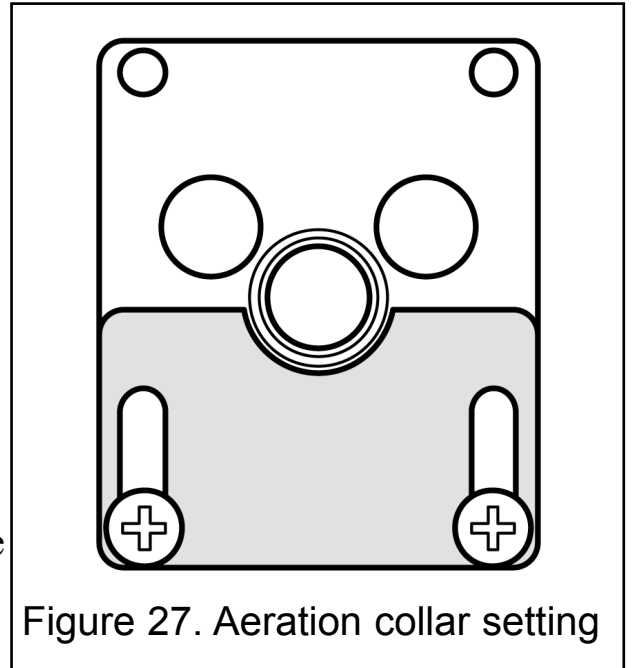

Figure 27. Aeration collar setting
1. The aeration collar is factory set and **will** require adjustment. **It is important to ensure that the aeration setting is correct (See figure 27).**
2. To adjust the aeration setting, loosen the two aeration shutter screws, slide the aeration shutter to the position shown in figure 27 and tighten the fixing screws.